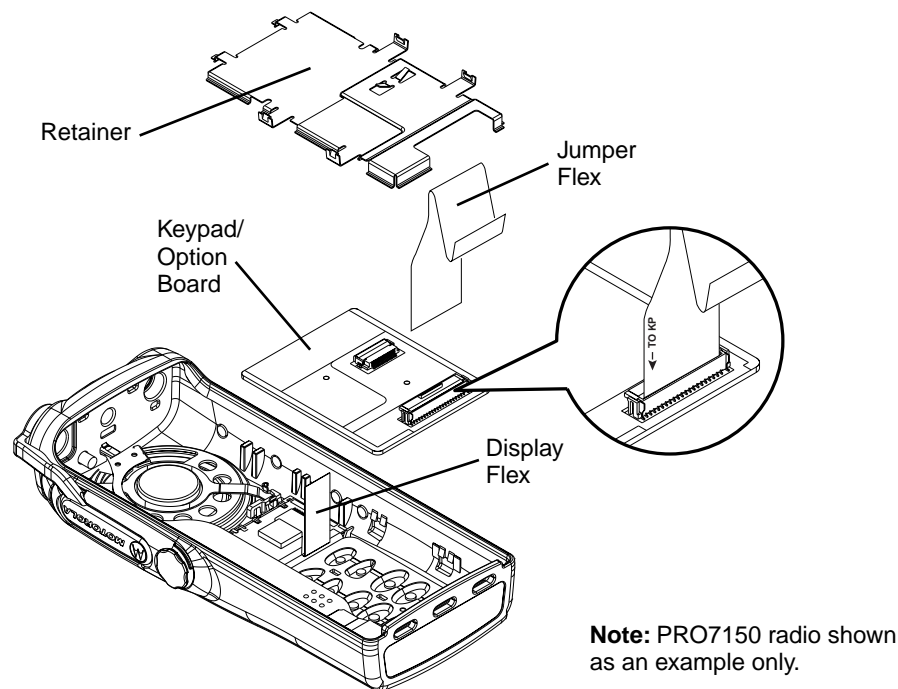

Figure 3-13. Changing Keypad/Option Board
1. With the keypad retainer removed and the display flex disconnected as shown in Figure 3-13, the keypad backer board can be removed without the use of tools.